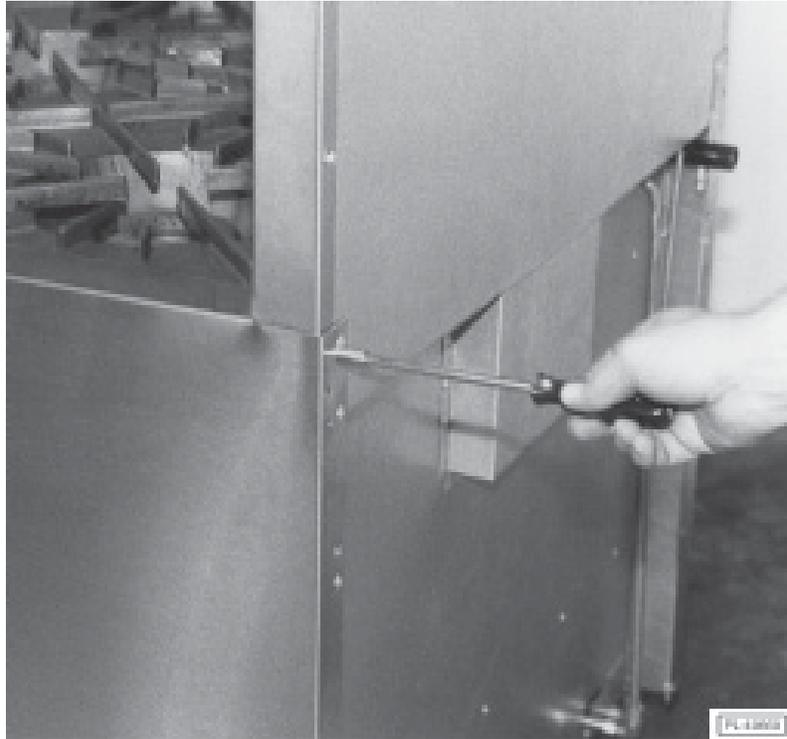

Fig. 12
6. Install four #10 sheet metal screws (2 to each channel leg) (Fig. 12).